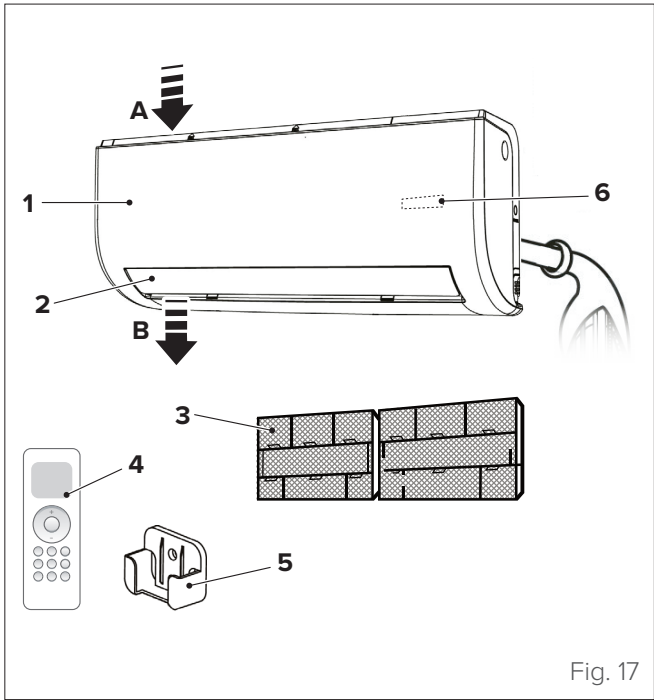

Fig. 17
- 2 Use a bracket or wedge to lift the unit so that there is enough space to connect the refrigerant piping, electrical cables and drainage pipe (see "Fig. 17").